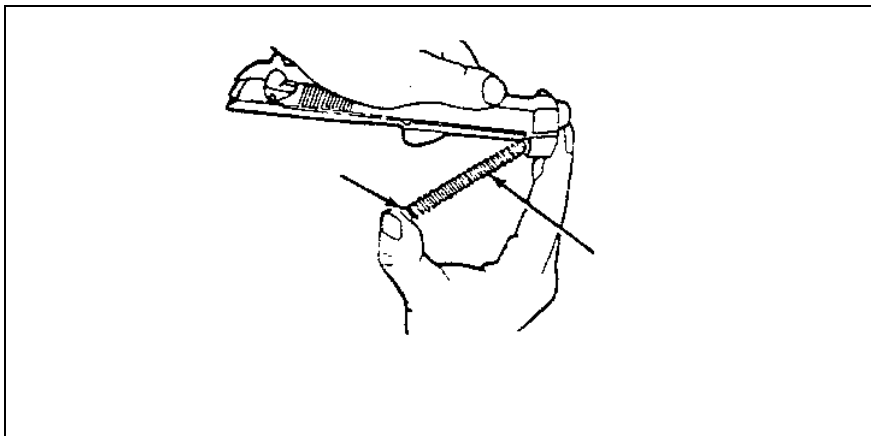

Figure 5. Removal of recoil spring from spring guide
- d. Compress the recoil spring and spring guide, and lift and remove it from the slide and barrel. (See Figure 5).